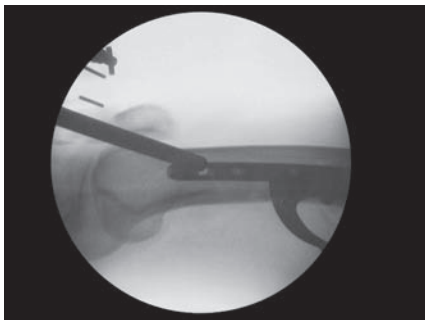

**Fig. 27**
After the oblique C-Arm positioning is done, adjust the height (Fig. 27 ①) and orbital rotation (Fig. 27 ②) of the X-Ray beam at the same plane as the Drill Sleeve Assembly (Fig. 27).